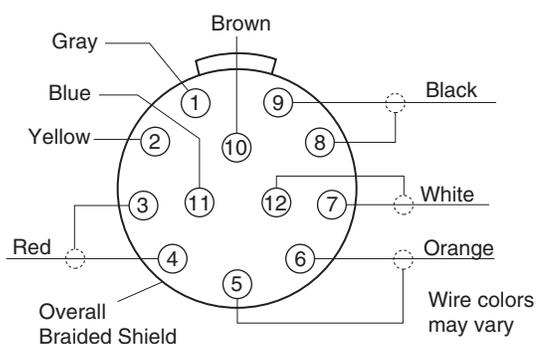

Figure 4-4. Pin Locations for Camera Cable Connector (12-Pin Hirose Male)
For special applications, this connector will mate with a Hirose Male Plug HR10A-10P-12P (user-supplied) or similar plug. See Figure 4-4 on page 76 for pin locations.
- Connector at controller end: 12-Pin Hirose Male, HR10A-10P-12P, with ground terminal lug (shield). See Figure 4-4 for pin locations.